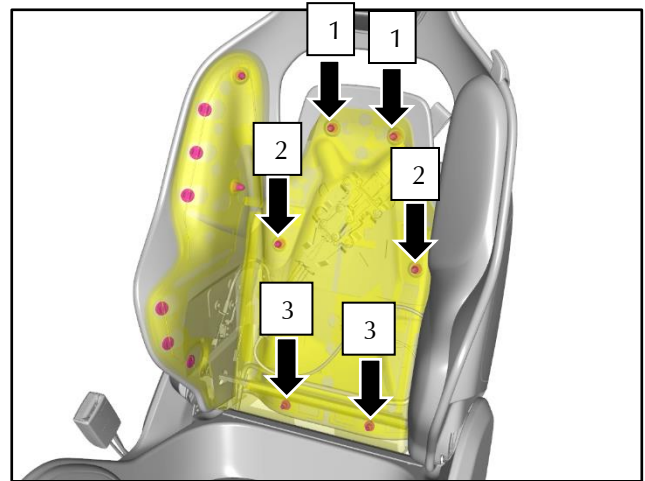

Figure 2
1. Use a forked trim removal tool to release the ball and socket fixings for the centre pad in the order shown (refer to Figure 2).
2. Use a forked trim removal tool to release the ball and socket fixings for the side pad in the order shown (refer to Figure 2).